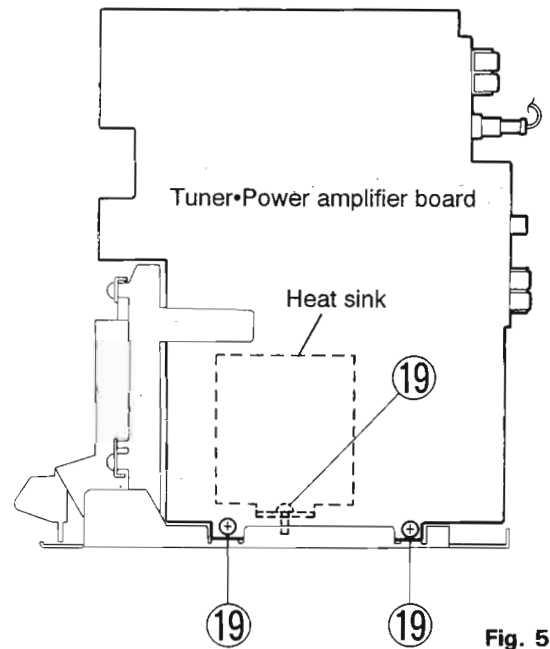

Fig. 5-18
**How to Remove the Tuner Power Amplifier P.C. board** (Refer to Figs. 5-18 and 5-19)
4. Remove the three screws (19) retaining the tuner power amplifier P.C. board.